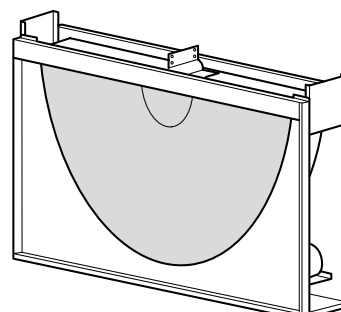

Fig. 8
- B. The top part with the rotor half in sections, with transport protection and lifting lugs, Fig. 8.
- C. The bottom half with a ready assembled rotor half and drive motor, Fig. 8.